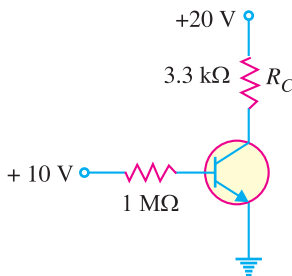

Fig. 8.70
8. Draw the d.c. load line for Fig. 8.70.
9. If the collector resistance R_C in Fig. 8.70 is reduced to $1\ \text{k}\Omega$, what happens to the d.c. load line? [The end points of d.c. load line are now **20 mA** and **20 V**]